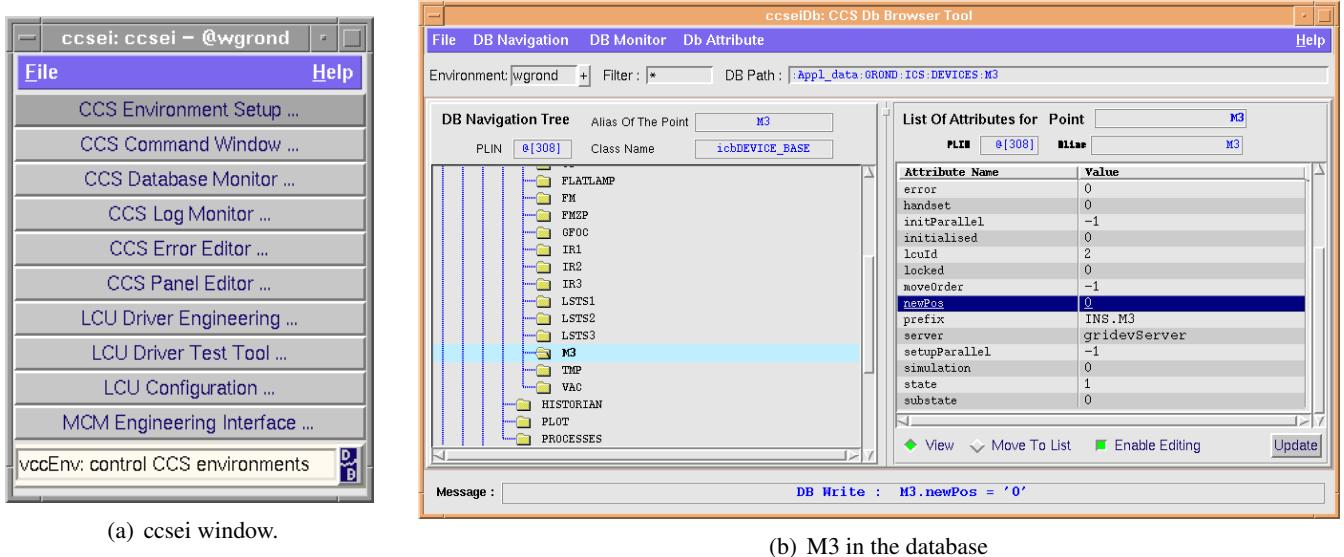

Figure 10.10: Writing the M3 position in the database
- Write the mirror position in the database (Fig. 10.10, p. 88)